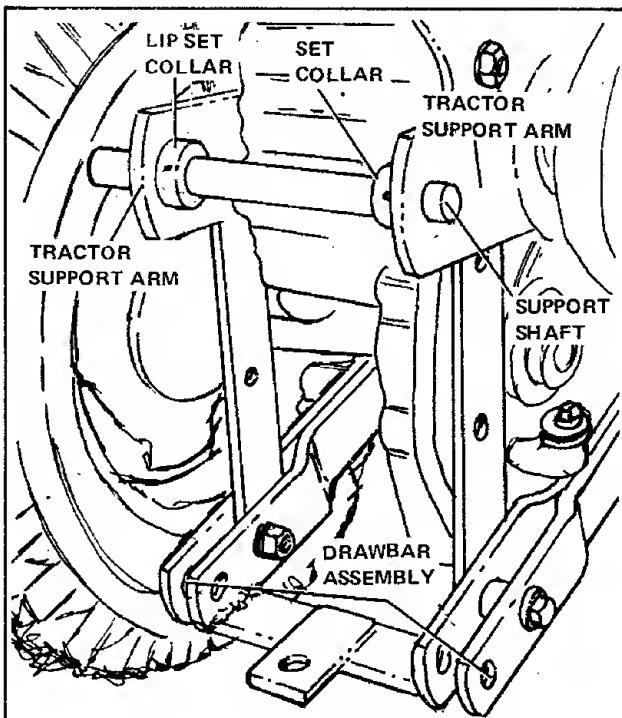

Figure 12. Installing Support Shaft
1. For tractors without a rear lift kit installed on the tractor, a support shaft and two collars are provided for installing the vacuum collector on the tractor. (On tractors with a rear lift kit installed, proceed to step 2.) On tractors without a rear lift kit, place the two set collars provided on the support shaft, the larger collar with a lip going on the left side with the lip facing outward. Position the support shaft in the rear hitch frame plates on the tractors so that the lip of the larger collar fits inside the left rear hitch frame plate and the end of the shaft is flush with the outside edge of the right hitch frame plate. Tighten the set collars so that there is no play from side to side in the support shaft. (See figure 12.)